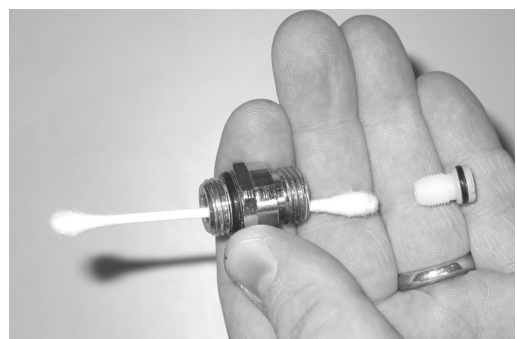

Fig. 3
6. Using a narrow slotted blade screwdriver, remove the ORIFICE (2) by turning it counter clockwise inside the INLET COUPLING (3). When it has disengaged completely from the threads, press it out with the use of a cotton swab (Fig. 3). Use caution to avoid nicking or scratching the delicate knife edge of the ORIFICE as this is done.